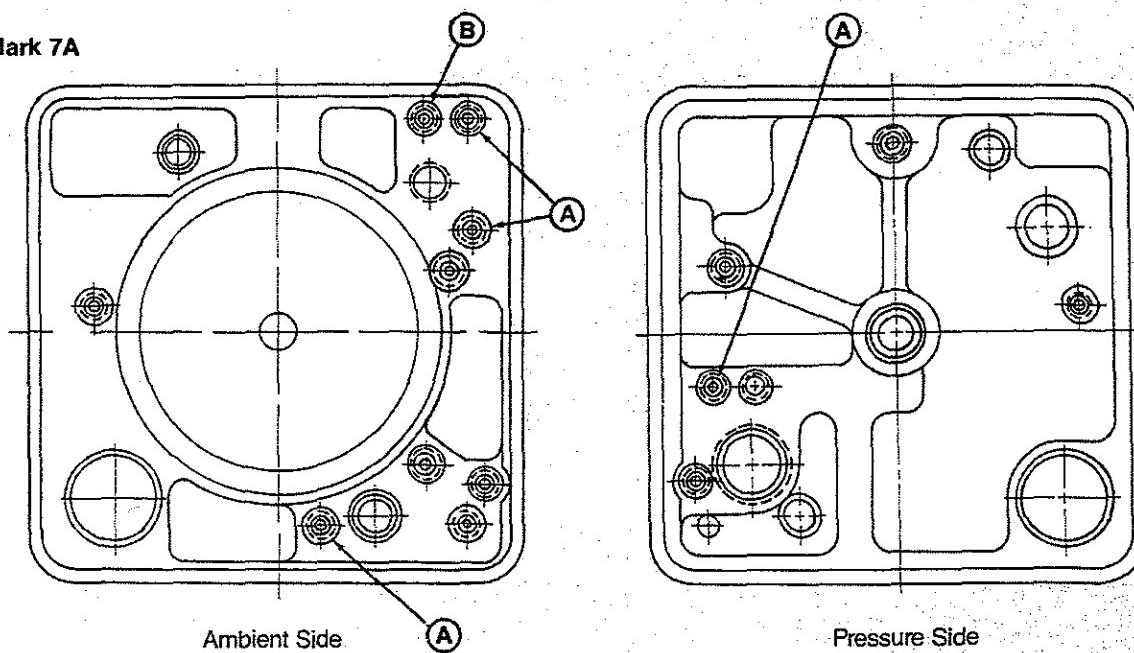

FIGURE 27
5.3 Place O-rings (P/N 5999) onto female quick-disconnect studs, and with a $\frac{5}{16}$ " nut driver or open end wrench, reinstall into Centerbody (Fig. 27).